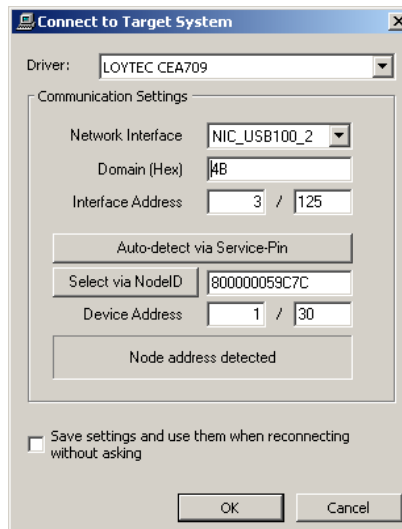

Figure 43: Connect via CEA-709
- **CEA-709:** Select the network interface to use and fill out all other fields, see Figure 43. Alternatively, select the network interface and press Auto-detect via Service-Pin. Then press the service pin on the LINX-110 device. Note that this connection method requires an installed LOYTEC network interface.